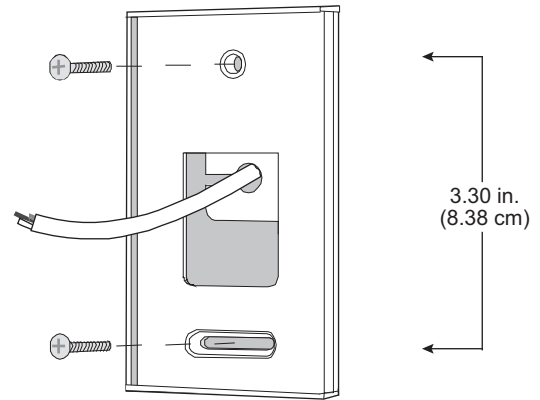

Fig. 65 — Rnet Cable Installation
5. Use 2 screws to mount the back plate to the wall or outlet box. See Fig. 65.